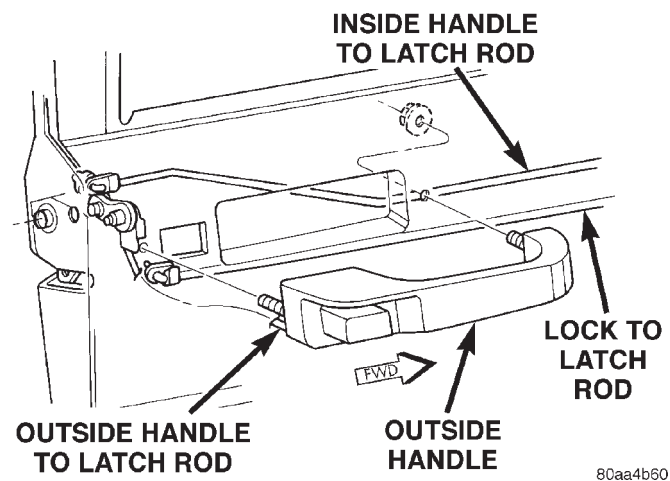

Fig. 50 Rear Door Outside Handle
- (1) Remove the door trim panel.
- (2) Roll the window to the full up position.
- (3) Peel back the waterdam to access the fasteners for the outside handle.
- (4) Remove the latch.
- (5) Remove the access hole cover.
- (6) Remove the nuts attaching the door handle to the door (Fig. 50).